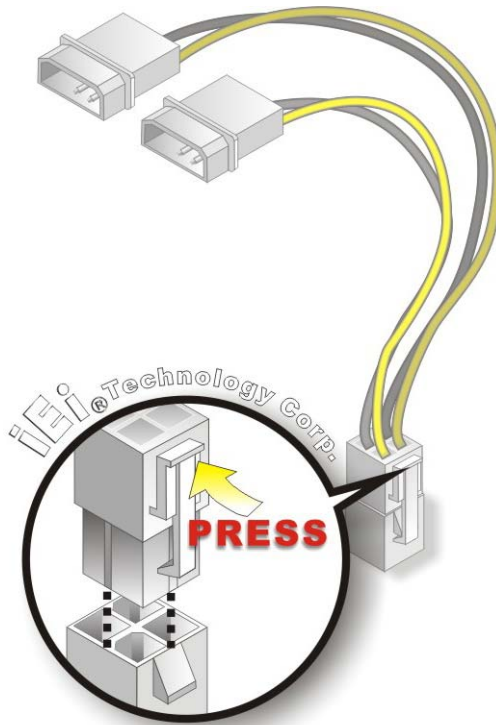

Figure 4-10: Power Cable to Motherboard Connection
Step 2: **Connect the Power Cable to the Motherboard.** Connect the 4-pin (2x2) Molex type power cable connector to the AT power connector on the motherboard. See **Figure 4-10.**